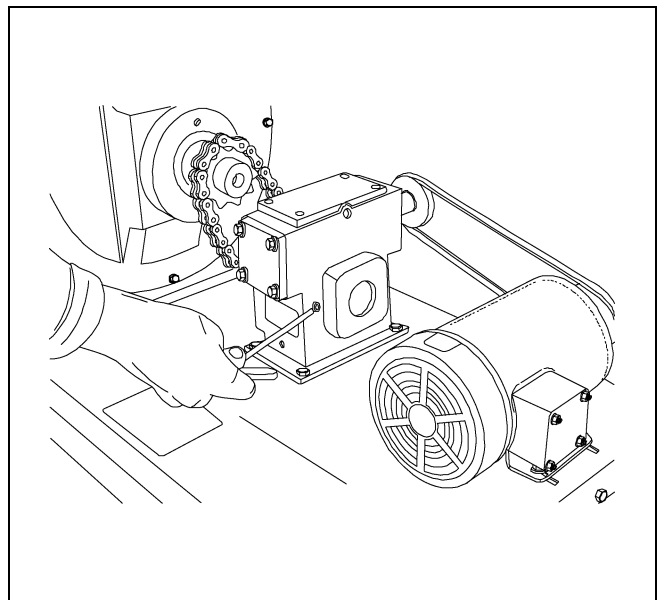

Figure 7K
10. Check the oil level in the gearbox by removing the plug and noting if the oil is at this level. Add SAE 80-90 gear lubricant if required. (See Figure 7K.)